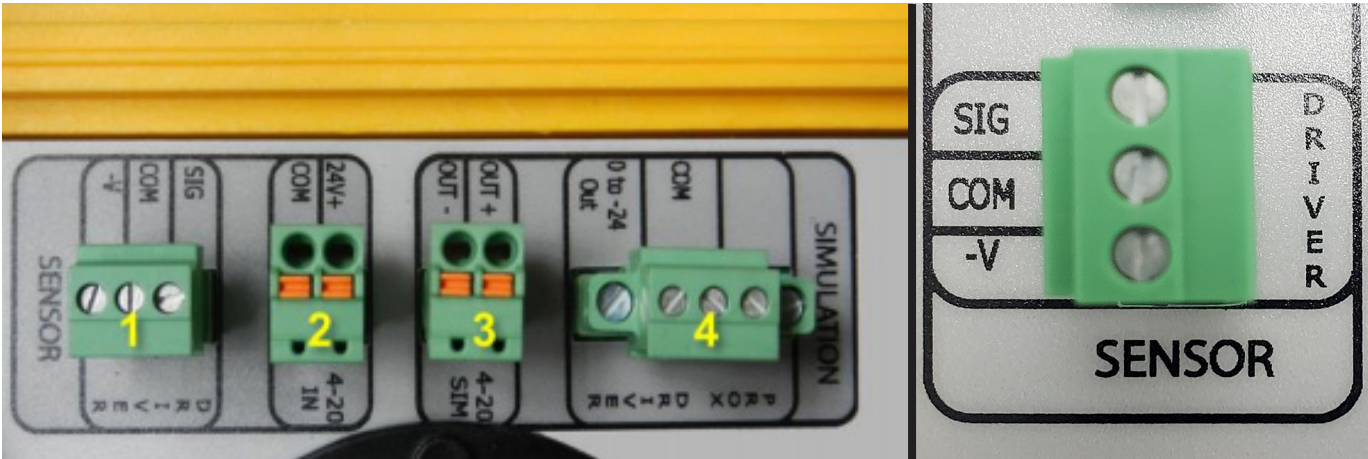
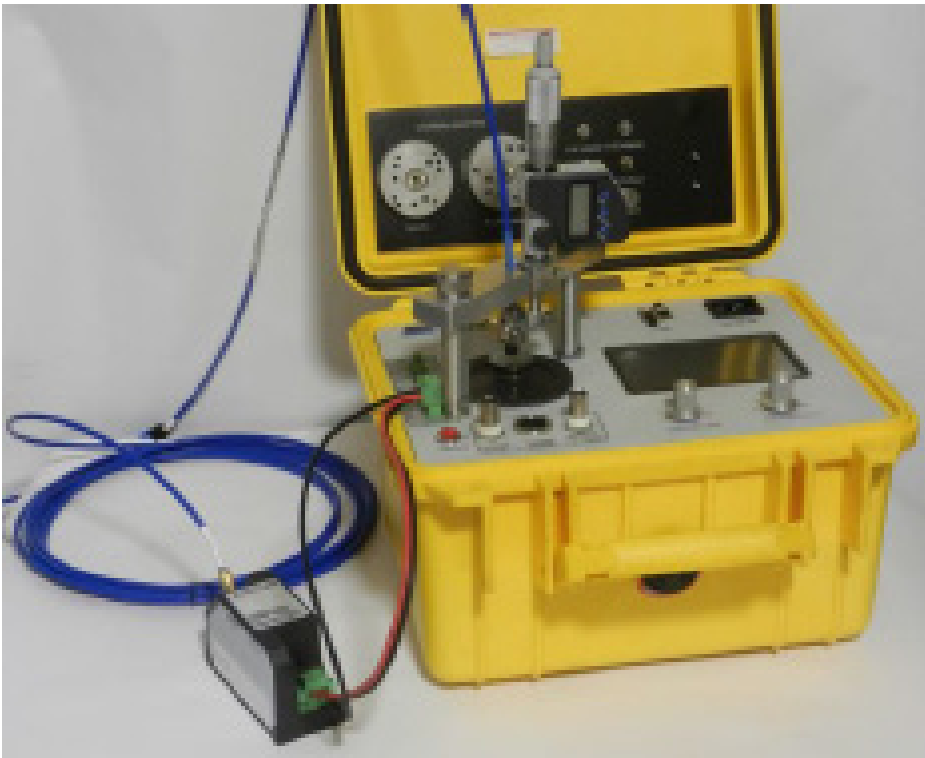

Figure 45. Proximity probe driver input
Figure 46. Proximity probe driver connected to AT2040
1. Connect the driver to the **Proximity Probe Driver Input** (labeled "1" in *Figure 45*), see also *Figure 46*: